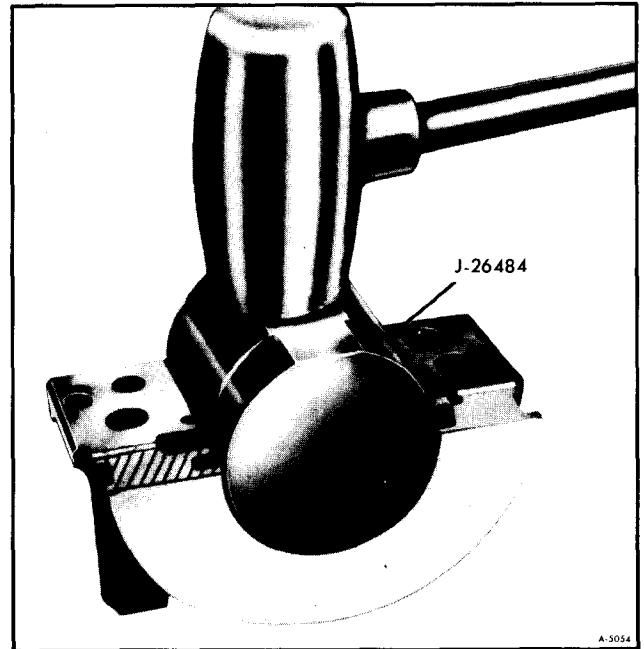

Figure 76—Installing Rear Main Seal—Lower Half
2. Using seal installer J-26484 hammer seal into groove. (See figure 76).